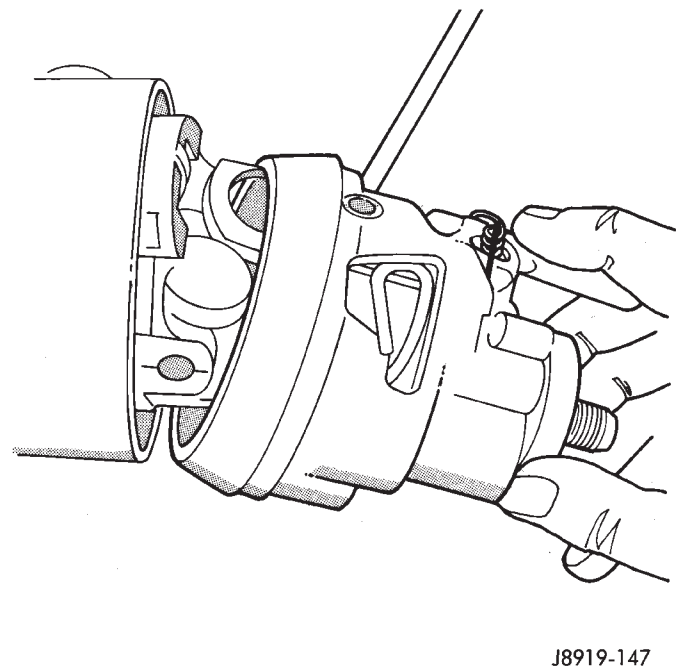

Fig. 11 Key/Lock Cylinder Housing Removal
(29) Lift the tilt-release lever to release the lock shoes. Pull the key/lock cylinder housing upward to disengage the shoes. Turn the housing clockwise to separate the lock rack from the remote rod. Remove the cylinder housing from the support (Fig. 11).
(30) Remove the tilt-release lever from the key/lock cylinder housing.